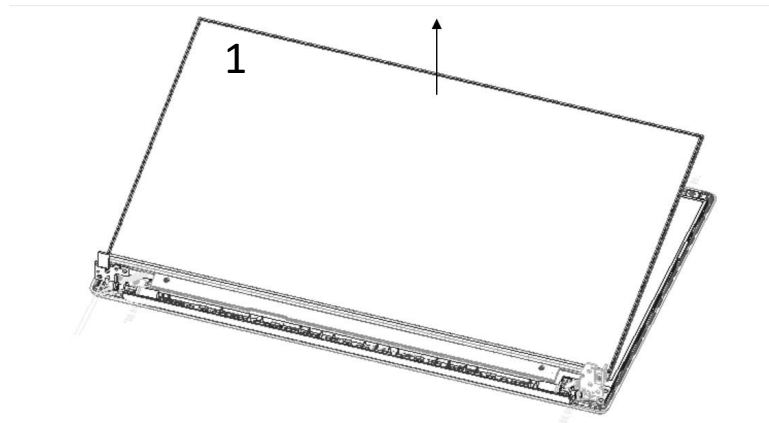

Figure 4-29 Removing LCD Panel follow direction 1.
Remove the LCD Panel according to the following procedures and Figures 4-29 & 4-30.
1. Follow the Figure 4-29 direction 1 to lift up LCD panel.
Install the LCD Panel according to the following procedures and Figures 4-29 and 4-30
5. Route the LCD cables according to Figure 4-29, place the cable into the ditch and correct position. Avoid to pinching the cables.